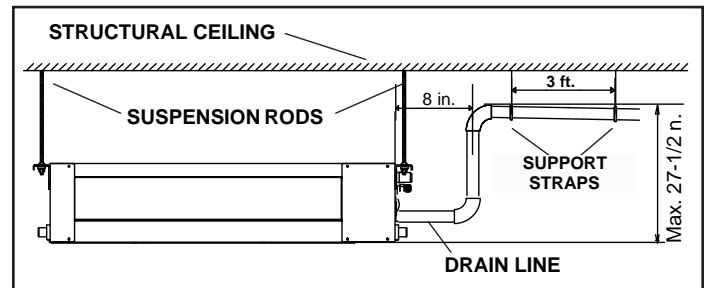

Figure 11. Condensate Drain with Pump -- Single Unit
4. See figure 11 for applications including a single unit using the internal drain pump.